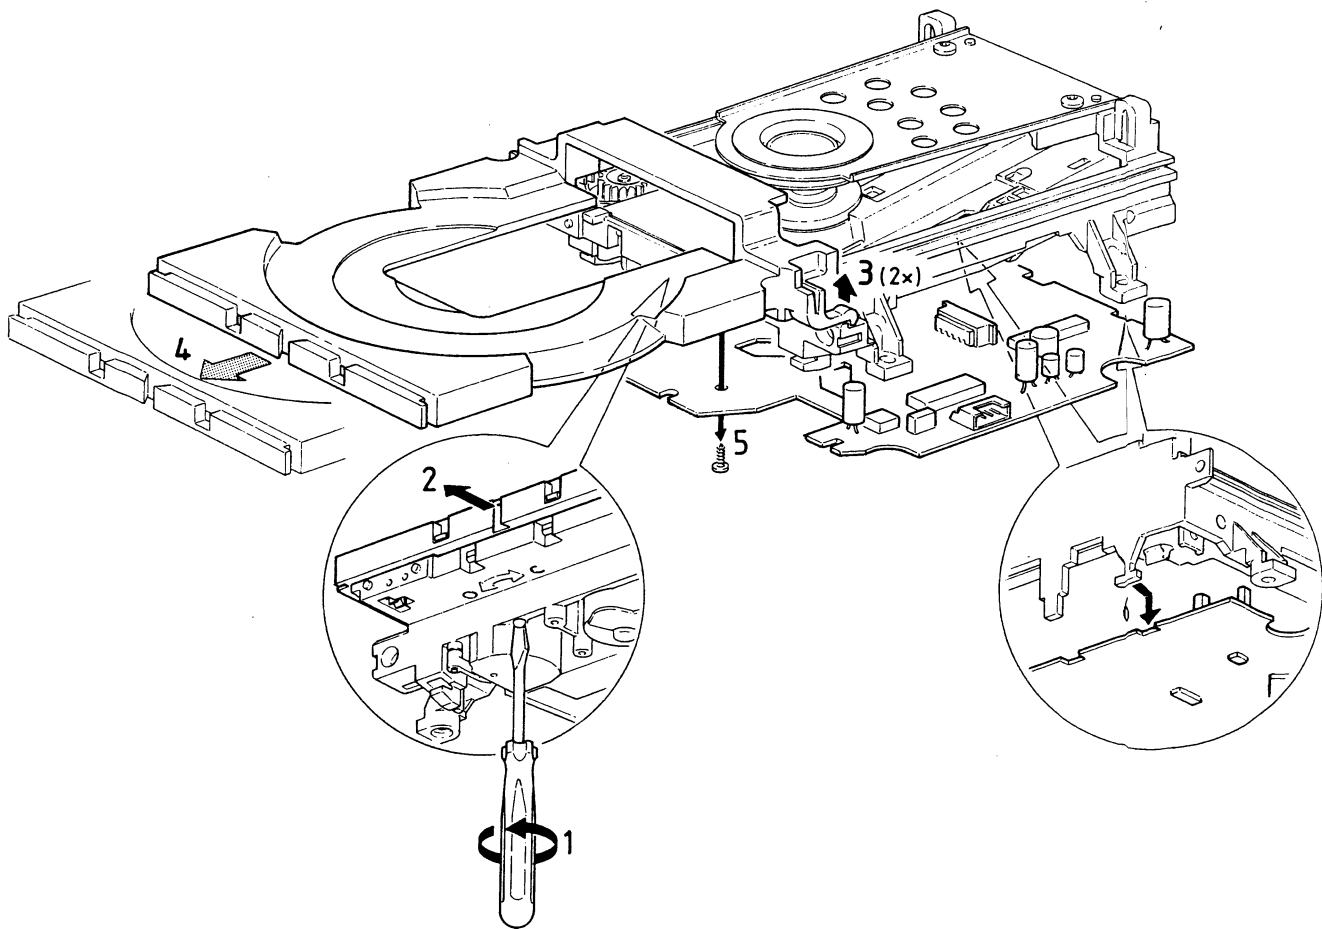

Fig. 1
- a) Press open/close button to open the tray. If the tray doesn't work, use a small screwdriver as shown in Fig.1 point 1 to move the tray outside. After the first centimetre it is possible to pull the tray out by hand.